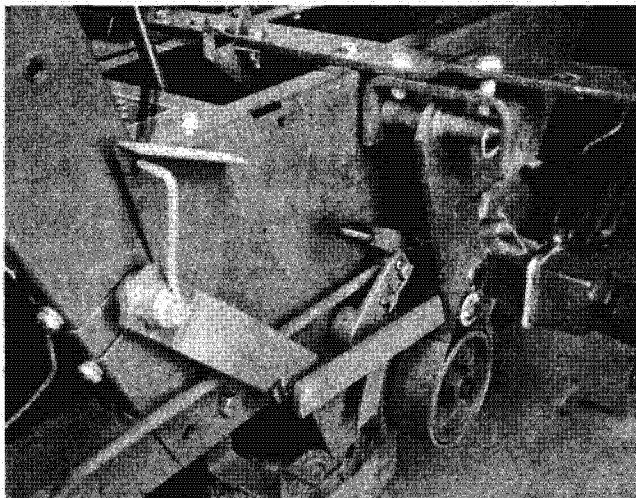

FIGURE 4
5. Fasten the bracket (3) to the tractor frame with one of the bolts previously removed with the left hand foot rest (lower center, Fig. 4).
6. Use bolts from the removed lift lever assembly to install lift arm assembly (2) and indicator
plate (5) to the hood stand (Fig. 4). Insert two large hairpin cotters (one from removed lift assembly) in the lift arm shaft inside the hoodstand. Be sure the loops and outer legs of the cotters face the front of the tractor.
7. Attach the pivot arm and bracket assembly (6, 7, 8) to the footrest bracket with $\frac{5}{16}$ " bolts, nuts and washers through the two holes closest to the frame as shown in figure 4. Be sure to insert the spacer on the outer bolt as illustrated.
8. One $\frac{1}{2}$ " I.D. washer and one spacer must be used at each end of lift link (9), but their positions will vary depending on alignment requirements. Initially, install a spacer on each pin and insert the link between the pivot and lift arms. Hold the link against the arms and observe its relation to the tractor frame. **It must be parallel with the frame.** Alternate spacers and washers as necessary to obtain proper alignment. Secure the link to the arms with cotter pins furnished (figure 4).